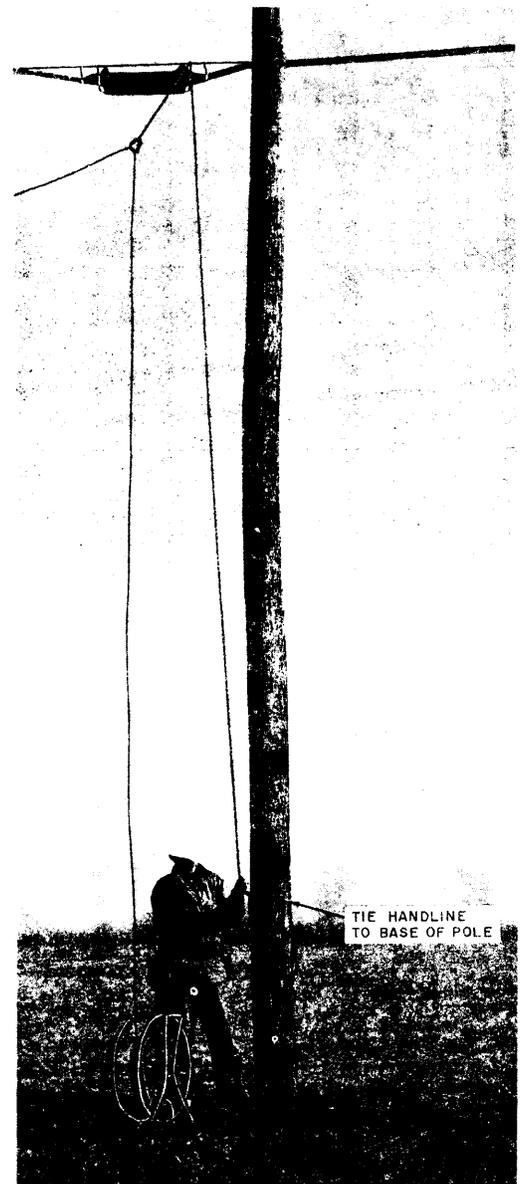

Fig. 16 - Drop Wire Raised to Approximate
- (h) After the drop wire has been raised to the approximate required height, secure the handline to the base of the pole (Fig. 16) or to the lower rungs of the ladder.